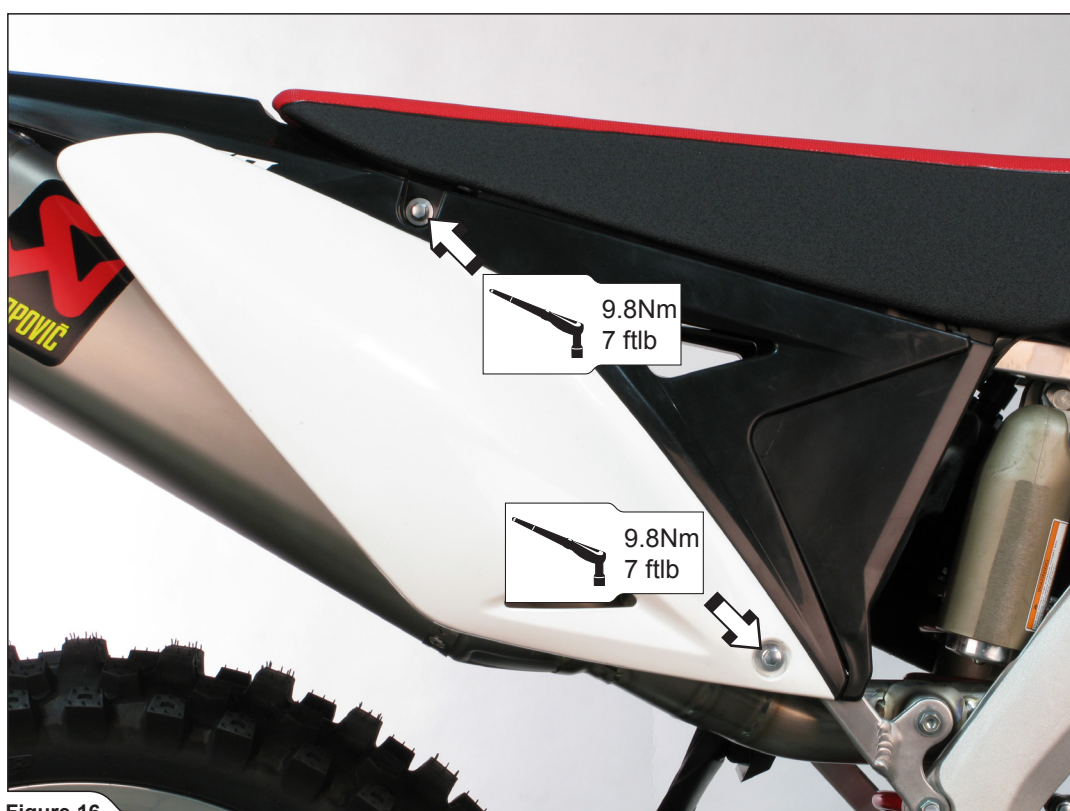

Figure 16
9. Reattach the right side panel and tighten the marked bolts to a specified torques (**Figure 16**).